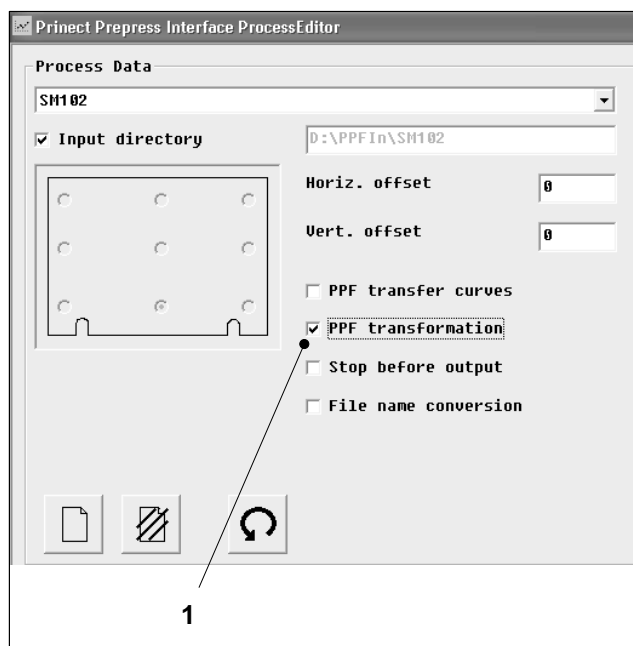

Fig. 14 The Process data section
2. Activate or deactivate *PPF transformations* (Fig. 14/1).